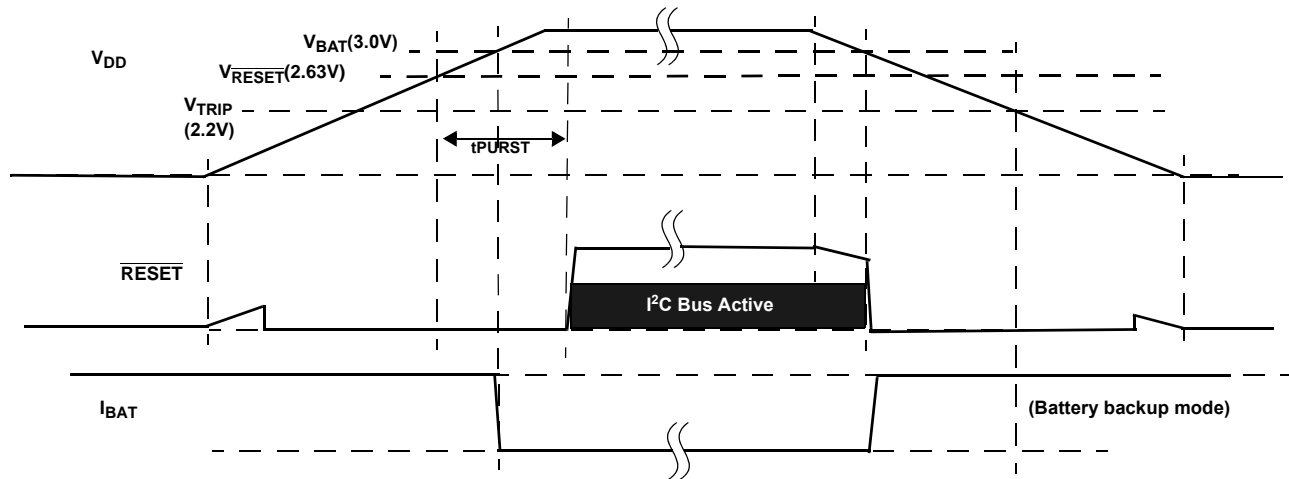

FIGURE 30. RESET OPERATION IN MODE D
- Mode D - In this mode the selection bits indicate switchover to battery backup at V_{DD} < V_{BAT}, and no I²C communications in battery backup. This mode is unique in that there is I²C communication as long as V_{DD} is higher than V_{RESET} or V_{BAT}, whichever is greater. This mode is the safest for guaranteeing I²C communications only when there is a Valid V_{DD}. (see Figure 30)